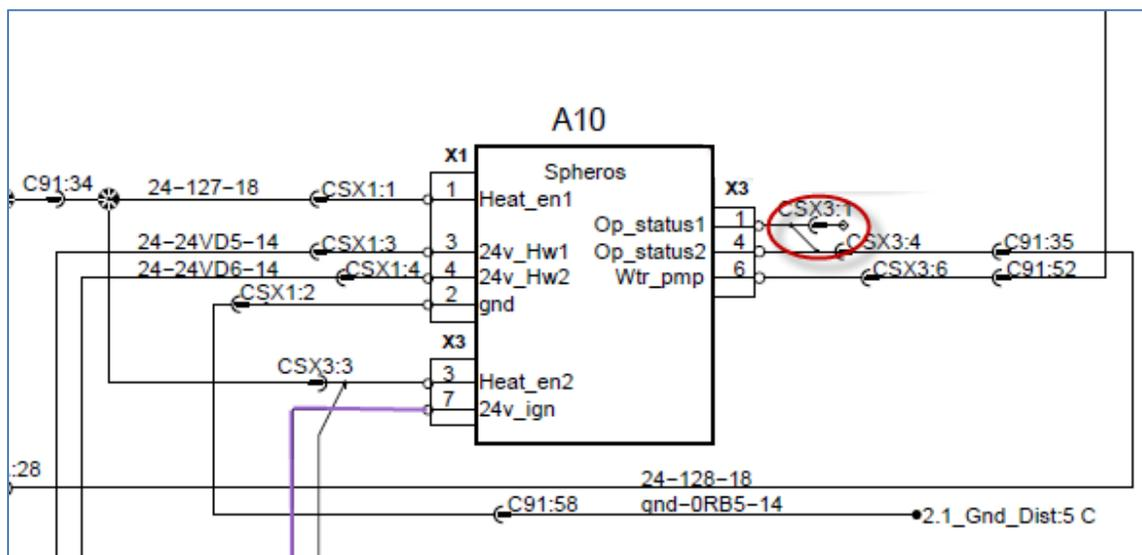

FIGURE 26
11. On the preheater harness, locate connector CSX3. Remove the jumper cable connected between connector CSX3 pin 1 cavity and pin 4 cavity (Figure 26).